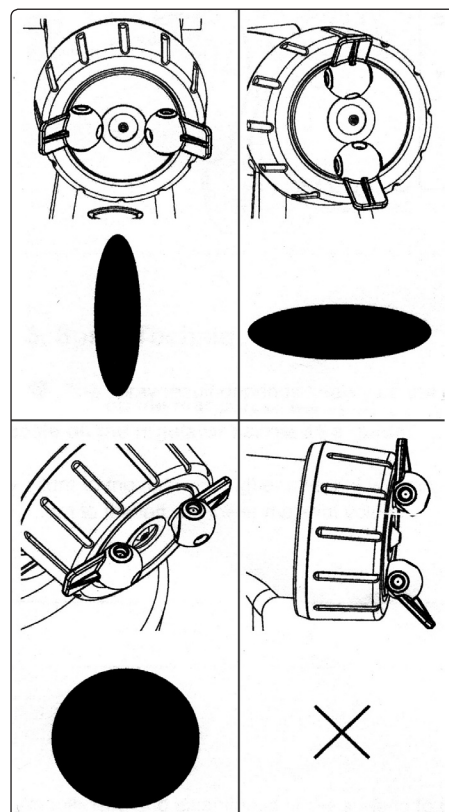

fig.2
- 4.1. Remove the spray gun from the unit and adjust the air cap by rotating it (or move the spray jets) to give the required spray pattern as shown in fig.2.